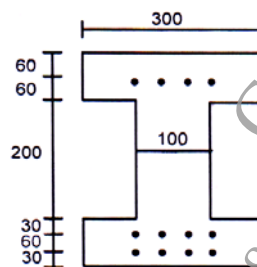
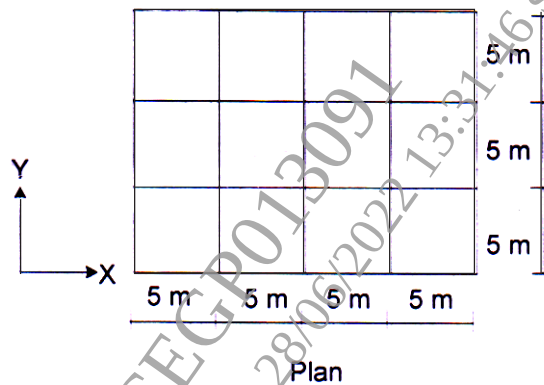

Fig. 1
Fig.2
- b) The permissible compressive stress in concrete is 14 MPa and permissible tensile stress in concrete is 1.4 MPa. A pre-stressed concrete beam is pre-stressed with 12 wires of 3 mm diameter as shown in Fig. 2. The wires are subjected to a pre-stress of 1000 MPa. Neglecting all the losses, determine the total sagging moment that can be applied to the beam during service stage. The cross section of the beam at mid span is as shown in the Fig. 1. [6]
b) Determine the seismic forces in X and Y direction at each floor level for the residential RCC structure of 12 m height shown in the Fig. 2. The building is located in seismic zone V. The soil conditions are medium stiff. The special moment resisting RC frames are in-filled with brick-masonry. The lumped weight due to dead loads may be taken as 12 kN/m². The floors are to cater a live load of 4 kN/m² on floors and 1.5 kN/m² on the roof. Consider floor height as 3 m. [8]